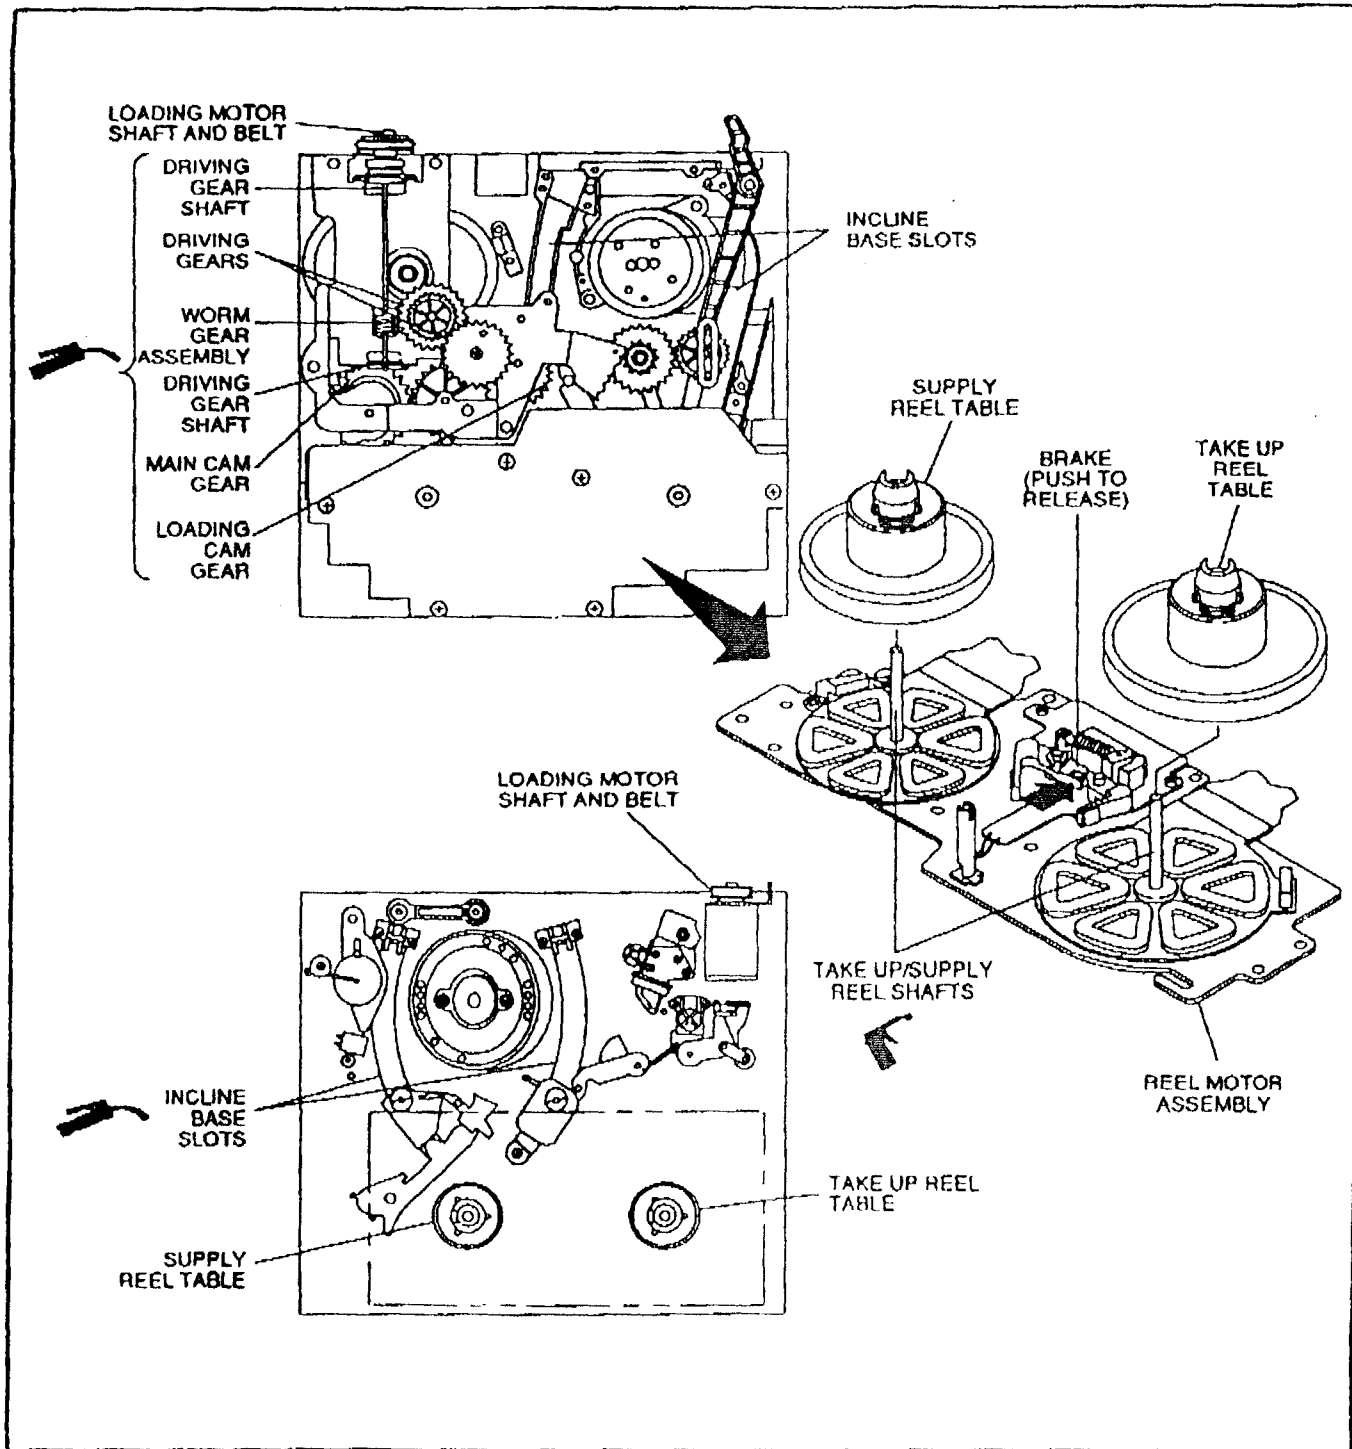

Figure 3. Lubrication Points
15. Using a disposable towel and/or cotton swabs remove old grease from the following points (see Figure 3). Gears can be moved by physically rotating the loading motor shaft at the belt.
21. Apply one or two drops of high quality spindle oil to the supply and takeup reel shafts (see Figure 3).
**NOTE** After installing the Reel Motor Assembly it is necessary to release (open) the breaks using a small screwdriver (see Figure 3).